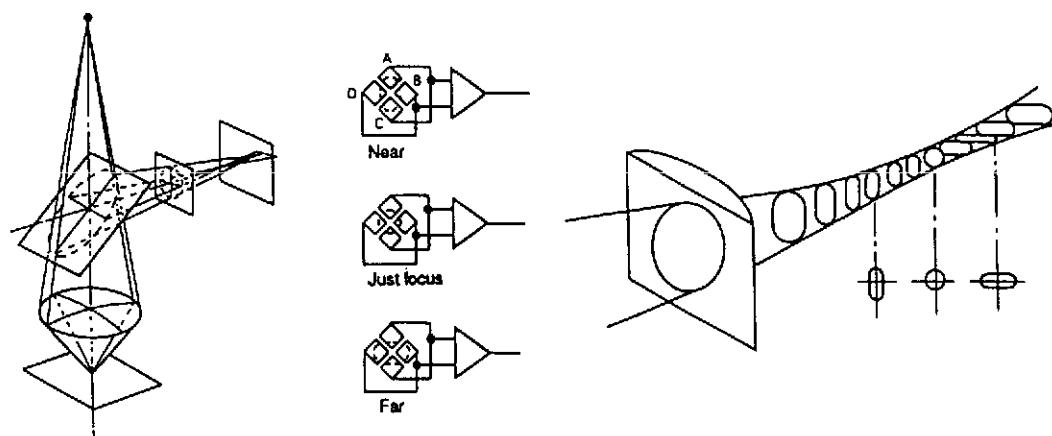

Fig. 3
1. Remove the top cover (Figure 3).
Shown in Fig. 3 is the principle of the focus error detection.